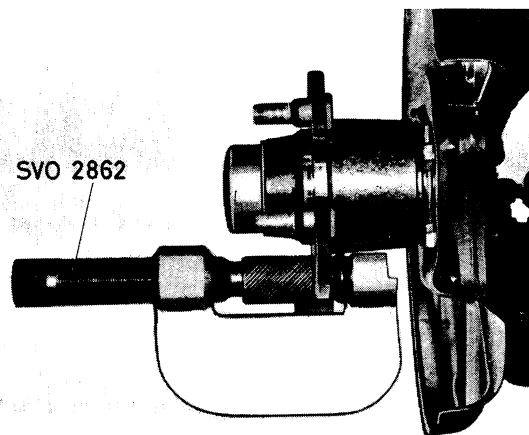

Fig. 7-15. Fitting wheel stud
6. Place the tool in position as shown in Fig. 7-15, and operate the nut runner to screw in the stud completely.